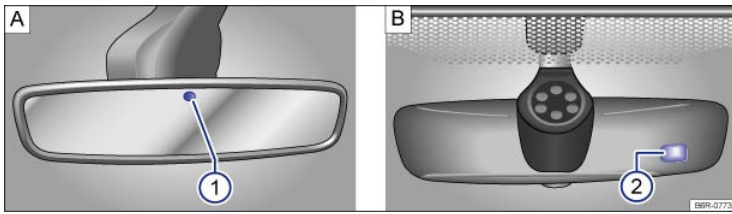

Fig. 87 On the windshield: Self-dimming rearview mirror (design may vary depending on vehicle equipment).
When the ignition is switched on, the sensors on the mirror measure the amount of light shining into the vehicle from the rear ⇒ Fig. 87① and from the front ⇒ Fig. 87② of the vehicle.